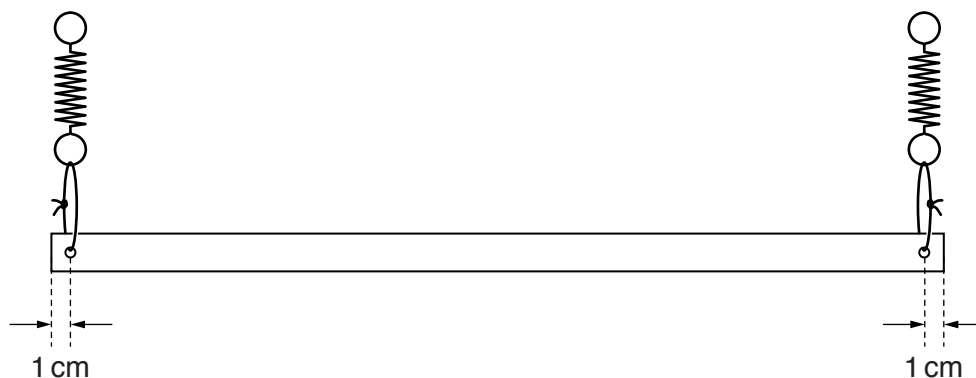

Fig. 1.1
- The wooden strip should have two holes drilled through it at the positions shown in Fig. 1.1. A spring should be attached to each end of the strip using a string loop of approximate circumference 8 cm as shown.